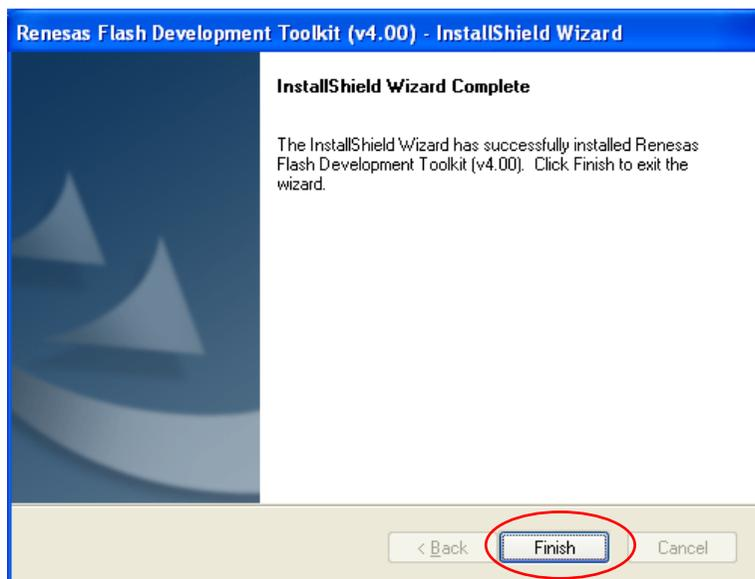

Figure 64:
12. When installation is complete, the following screen will appear. Select Finish to complete installation (Figure 64).